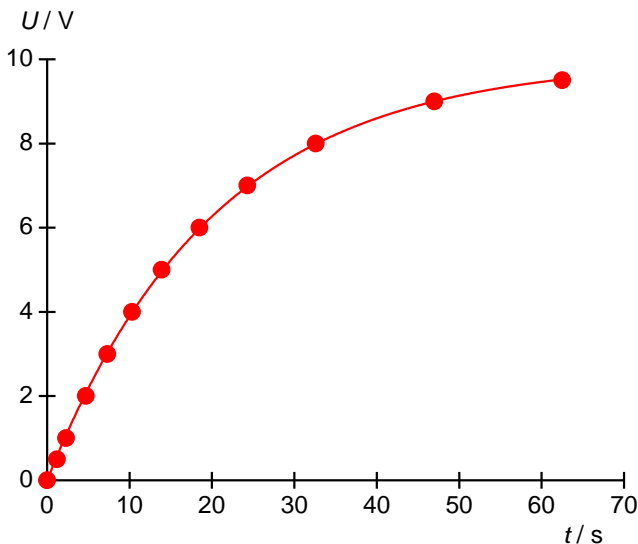

Fig. 2: Charging curve for internal RC pair no. 3.
Figs. 2 and 3 show examples of the charging and discharging curves for internal R/C pair 3. The exponential progressions expected from equations (1) and (2) are verified.